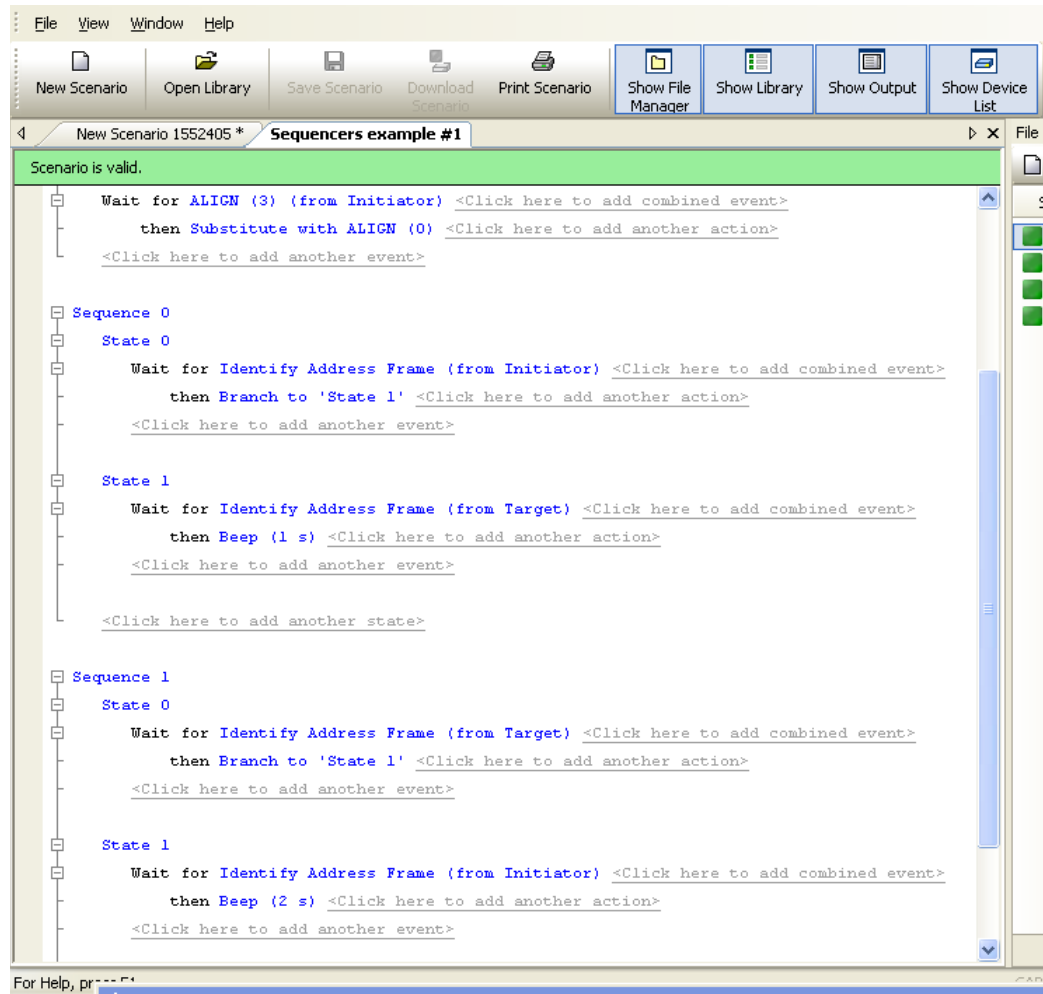

Figure 82 Example 7: Sequence Area of Scenario
- Step 18** In the File menu, select **Save Scenario** to save the scenario (Figure 82).